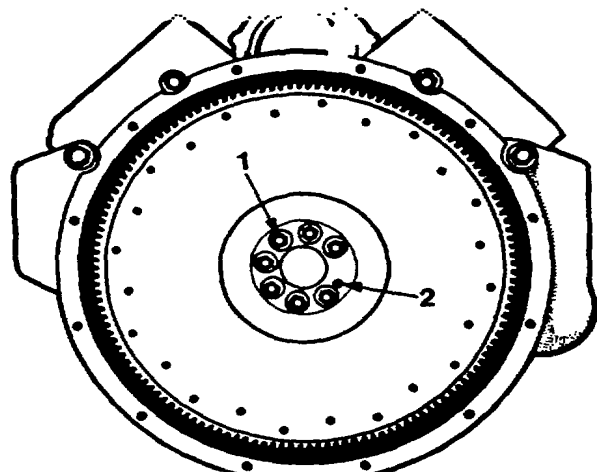

Figure 100. Flywheel Mounting Details
9. Loosen flywheel mounting bolts and remove the flywheel assembly and roll pin from the crankshaft flange (Figure 100).